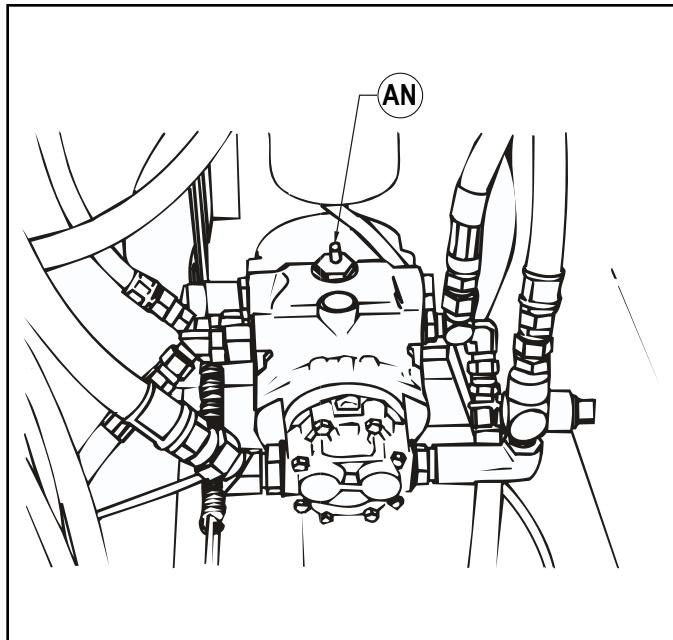

FIGURE 21
### TOWING INSTRUCTIONS (SEE FIGURE 21)
1. Locate Tow Control shaft Extension (AN) as shown in Figure 21. (See arrow)